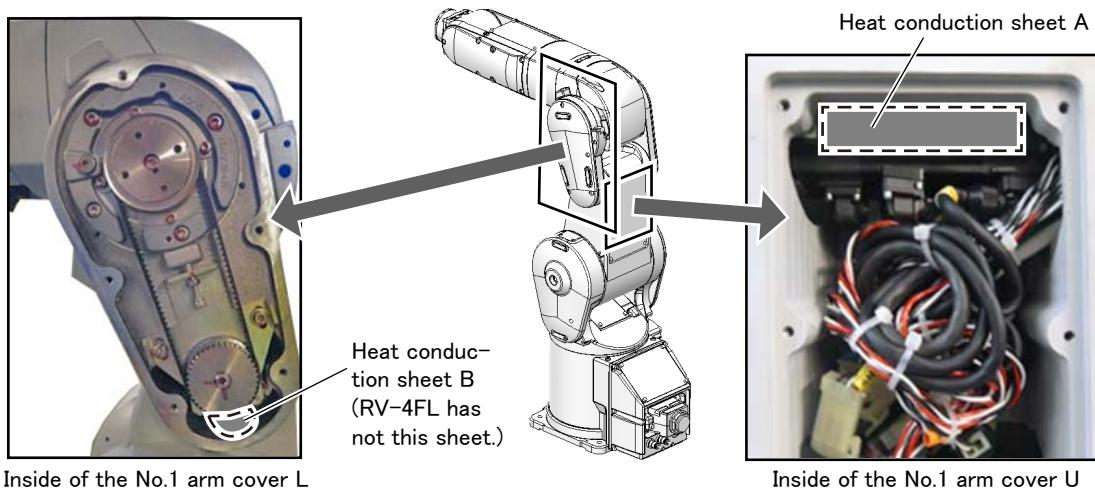

Fig.5-10 : Heat conduction sheet position
- 3) Remove the heat conduction sheet A stuck on the J3 axis motor (see Fig. 5-10). Be careful not to get any dust, etc. on the adhesive side.
Be careful not to shift the heat conduction sheet B (see Fig. 5-10).